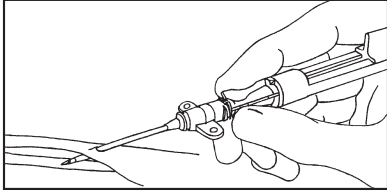

Figure 2
6. Perform arterial puncture. Blood flashback in clear hub of introducer needle indicates successful entry into vessel (refer to Figure 2).